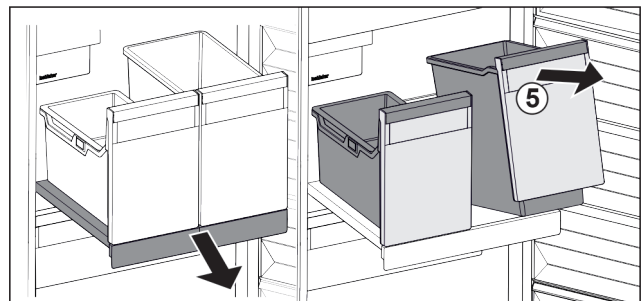

Fig. 118
- Lift the container Fig. 118 (5) at the front.